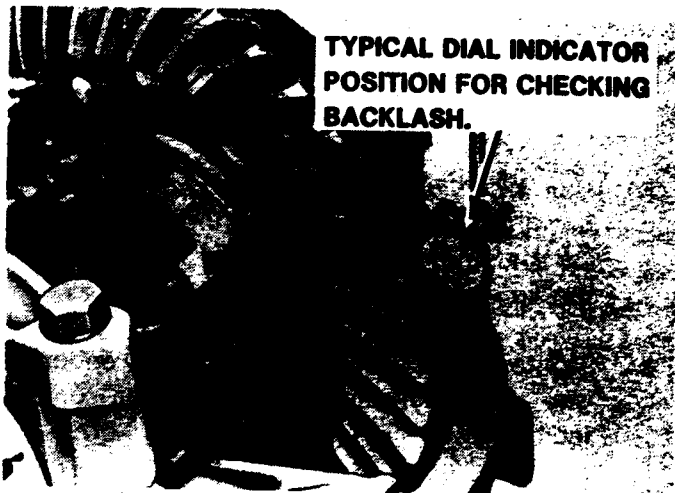

Figure 7. Checking Clearance
1. The backlash must be checked with a dial indicator. The dial indicator must be put in the position shown in Figure 7.